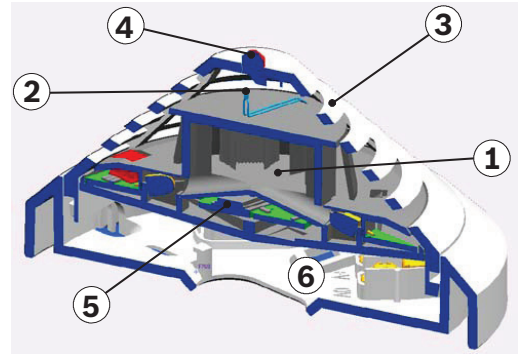
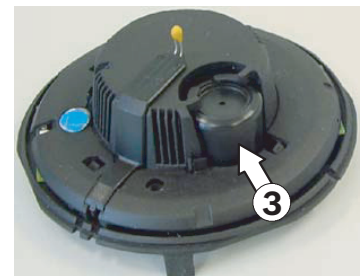

Figure 2.1 Configuration of the Detector
Figure 2.2 Chemical Sensor
An LED sends light into the measuring chamber (refer to *Figure 2.1*, item 1); this light is absorbed by the labyrinth structure. In the event of a fire, smoke enters the measuring chamber. The light is scattered by the smoke particles and hits the photo diodes, which transform the quantity of light into a proportional electrical signal.
A thermistor (refer to *Figure 2.1*, item 2) in a resistance network is used as a thermal sensor; an analog-digital converter measures the temperature-dependent voltage at regular intervals. Depending on the detector class set, the temperature sensor switches to an alarm state if the maximum temperature exceeds 54 °C (thermal maximum) or a defined temperature increase within a particular timeframe (thermal differential).
The gas sensor (refer to *Figure 2.1* and *Figure 2.2*, item 3) detects mainly the carbon monoxide (CO) that is produced by a fire, but it also detects hydrogen (H) and nitrogen monoxide (NO).